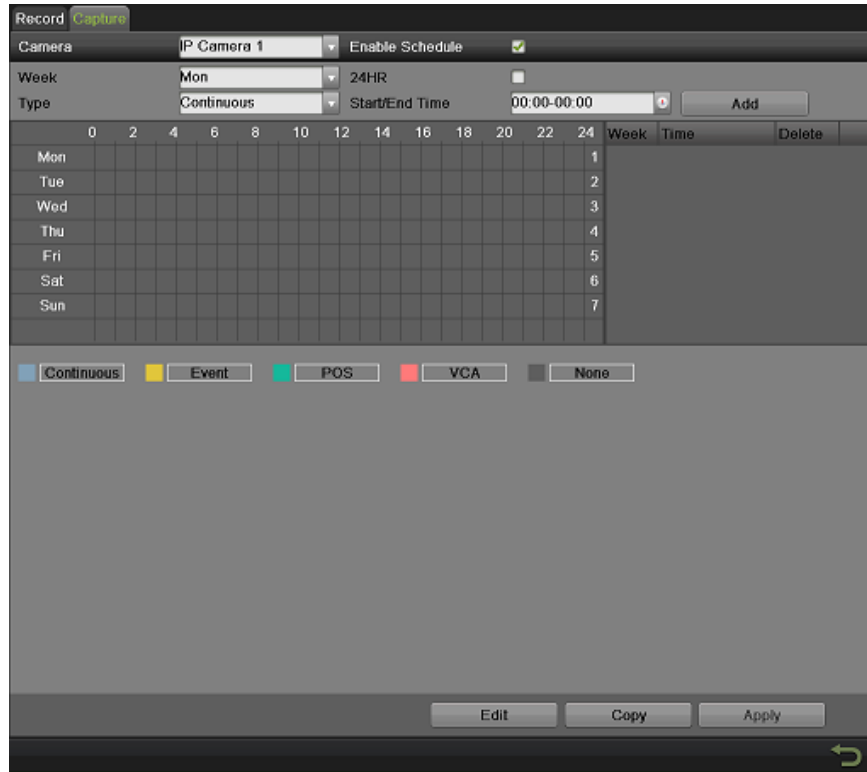

Figure 56 Capture Schedule Configuration Menu
2. Select the Capture tab, as shown in Figure 56, to configure capture schedule.